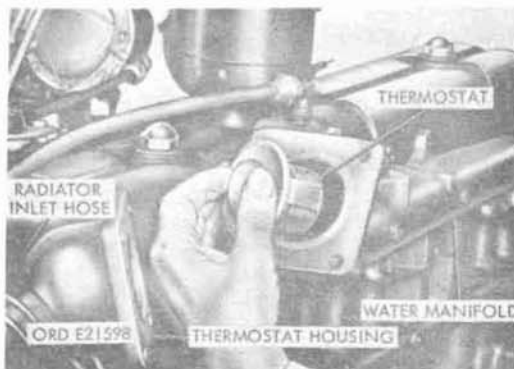

Figure 136. Removing thermostat
- (5) Thermostat. The bellows-type thermostat (fig. 136) is mounted in the end of the water manifold, contains a restriction valve, sensitive to temperature, which opens gradually as the engine temperature increases. The valve in the thermostat starts to open at approximately 160° F.; the valve remains closed, eliminating the flow of coolant through the radiator. The bypass line around the thermostat permits a small circulation of coolant through the engine water passages until normal oper-
86. Thermostat (Fig. 136)